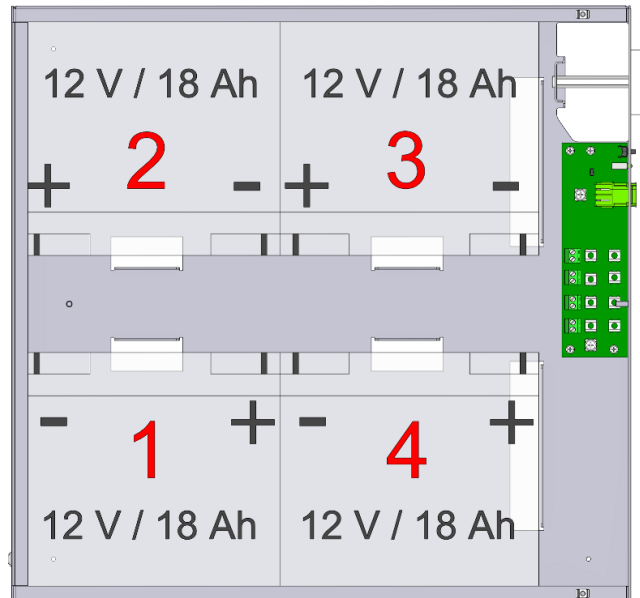

Fig.3. Location and installation sequence of batteries
3. Battery installation should begin from the rear panel. The location and exact installation sequence are shown in Figure 3.